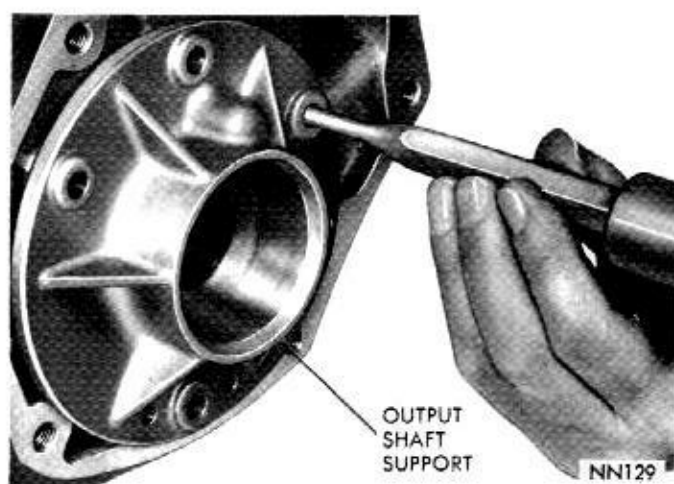

Fig. 77—Removing Overrunning Clutch Cam (A-727)
(1) Remove set screw from the case below clutch cam.
(2) Remove four bolts securing output shaft support to rear of transmission case. Insert a punch through bolt holes and drive cam from the case (Fig. 77). Alternate punch from one bolt hole to another so cam will be driven evenly from the case.